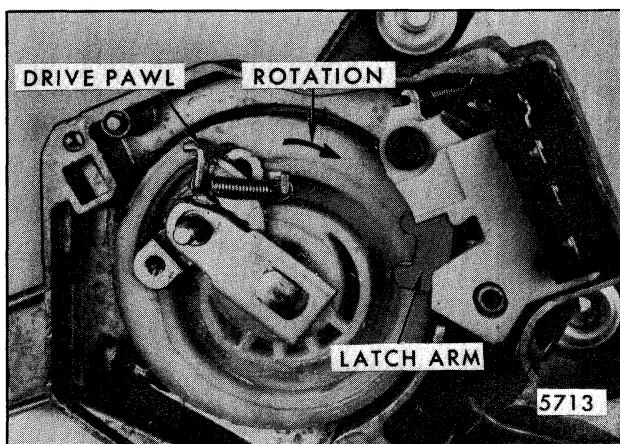
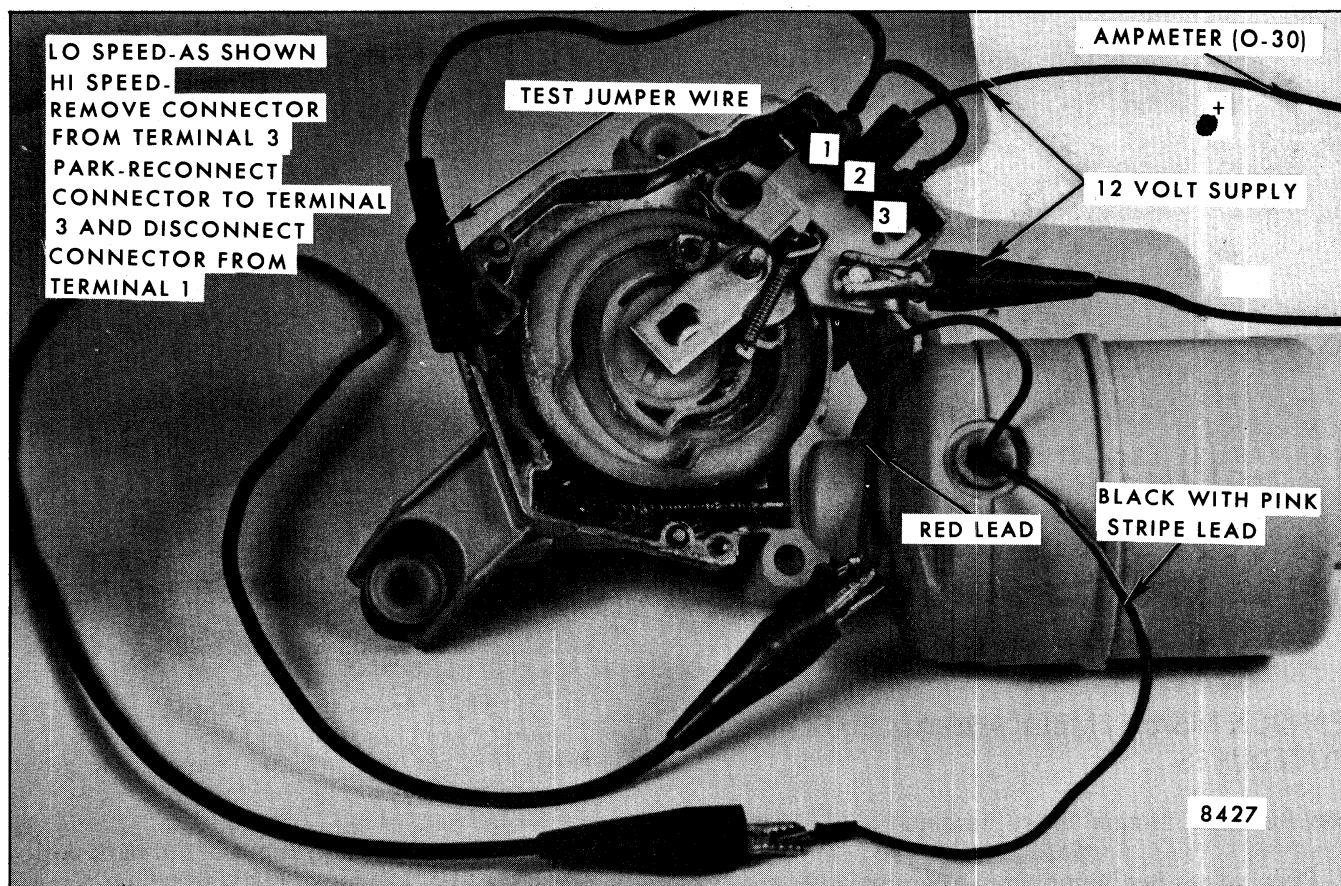
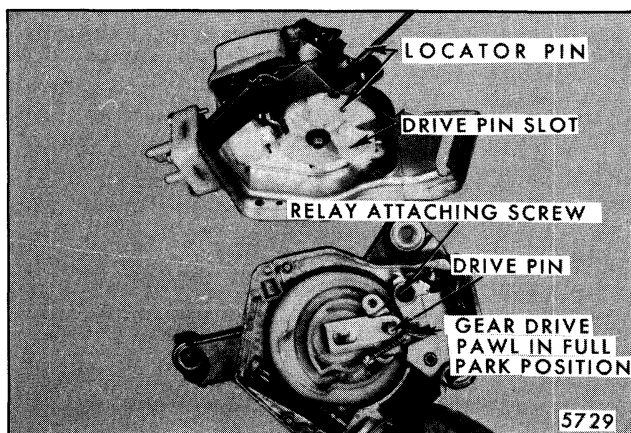
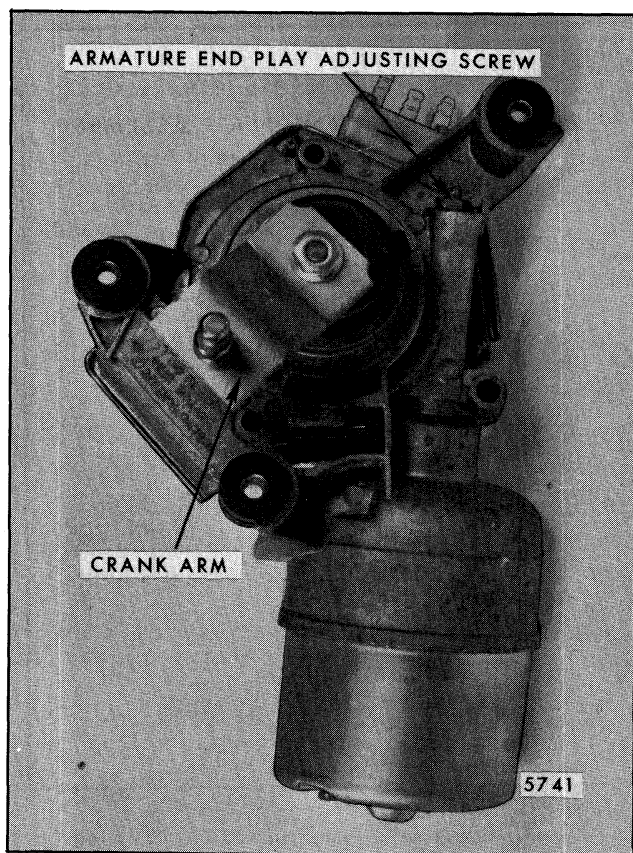

Fig. 2-57-Gear in Normal Run Position
Fig. 2-85-Modified Pulse Motor Bench Operation Test
Fig. 2-88-Installing Pump to Motor
Fig. 2-94-Crank Arm in Park Position
1. The gearbox relay coil circuit is opened allowing the spring-loaded relay latch arm to move out into the path of the gear mechanism (Fig. 2-57). However, the gearbox relay switch contacts are still closed and therefore the B plus circuit to the pulse relay is still maintained.
2. If wiper gear drive pawl is in full park position (Fig. 2-88), operate the motor as required to move pawl out of relay slot (Fig. 2-85).
3. If wiper gear drive pawl is not in full park position (Fig. 2-57), remove relay attaching screw (Fig. 2-88) and lift relay-terminal board assembly out of gearbox.
6. Refer to Figure 2-85 and operate wiper to park position, then reinstall washer pump. Refer to reassembly of washer to wiper gearbox (Fig. 2-88).
7. Refer to Figure 2-85 and operate wiper to park position; then, position crank arm on output shaft flat so that it points in the direction shown in Figure 2-94. Next, install crank arm retaining nut finger tight.